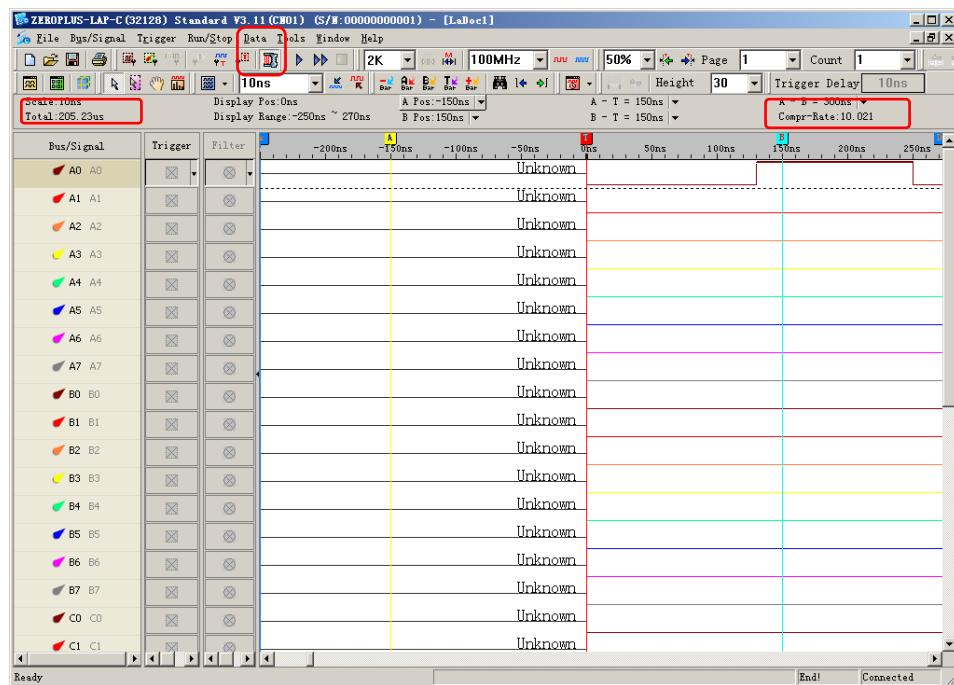

Fig 4-138 – Before and After Compression
**Step4.** Click **Run**, and then activate the signal from the tested circuit to acquire the result on the waveform display area. Fig 4-138 shows the result before and after compression has been applied.